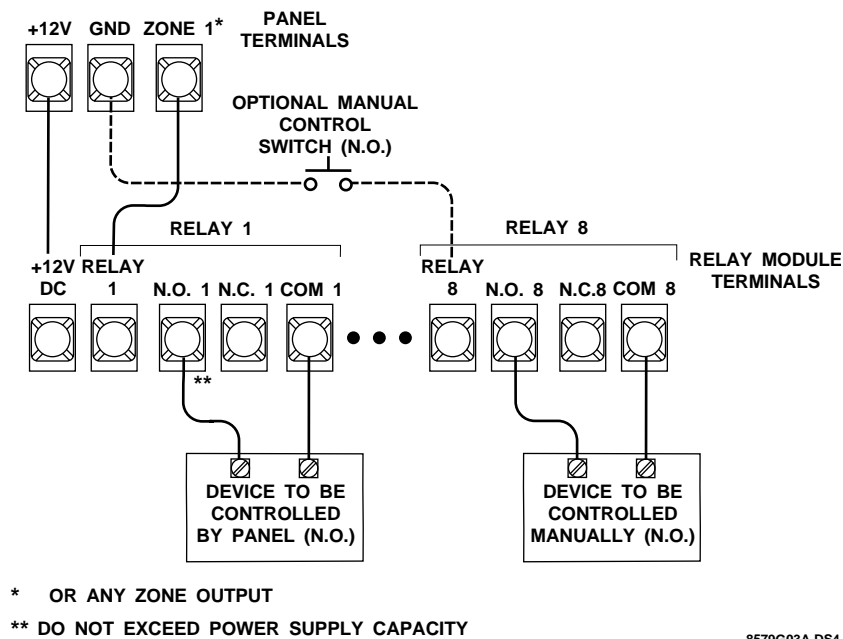

Figure 4. Wiring Card to Quik Bridge Loop Receiver
2. Wire the devices to the card as shown in figure 4 and table 1.